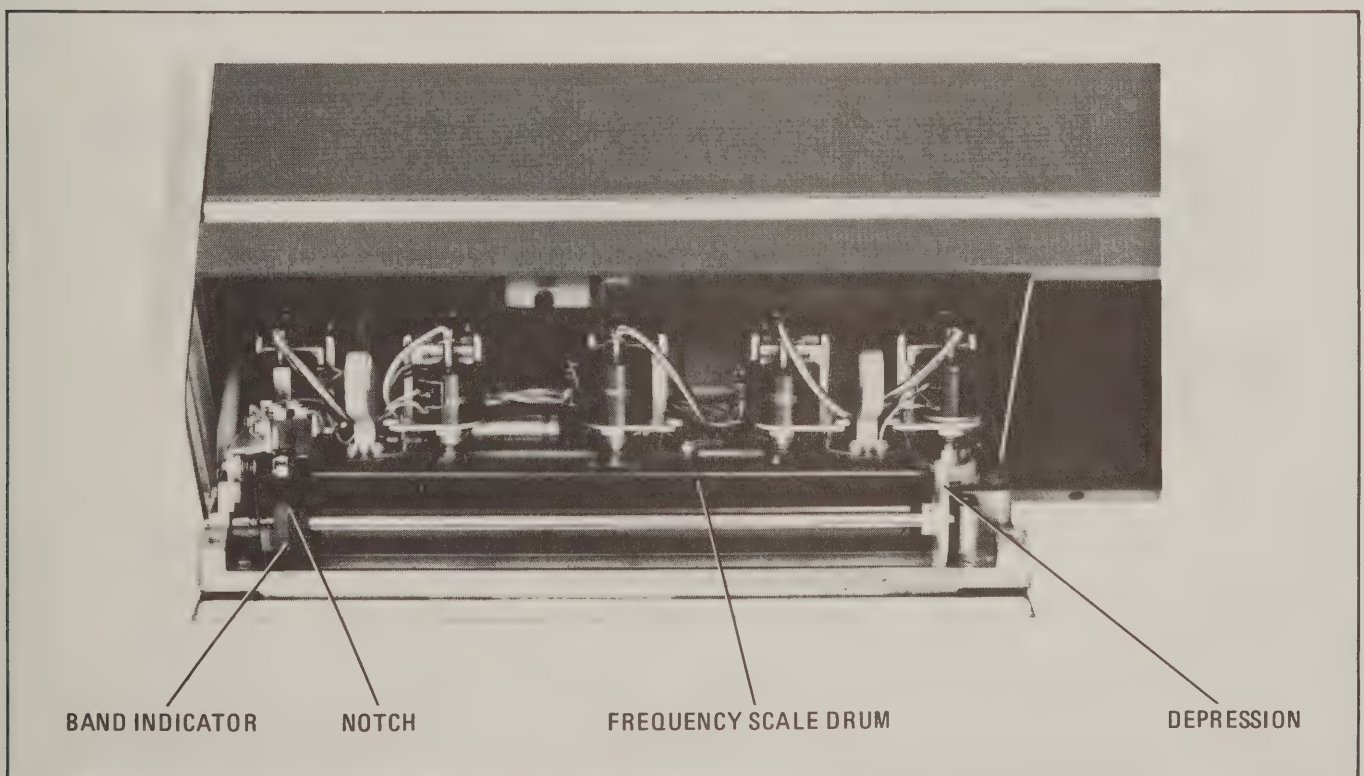

Figure 2-2. Mainframe Front Panel in Open Position
- b. Swing front panel forward and down to position shown in Figure 2-2.
- d. Insert frequency scale so key (a $\frac{1}{16}$ -inch long, $\frac{1}{2}$ -inch wide protrusion) on left end of scale fits into notch, shown in Figure 2-2, in roller on left-hand edge of drum.